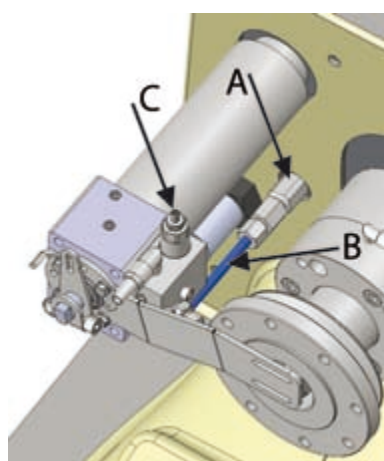

Figure 17. Lubricating the Rear Bearing
- If the automatic lubrication unit is feeding too much grease (the reservoir gets empty too soon), decrease the pressure by loosening the adjusting screw (Figure 17, point C).
- If the automatic lubrication unit is not feeding grease to the rear bearing (cold conditions, thick grease type), increase the pressure by tightening the adjusting screw (Figure 17, point C).